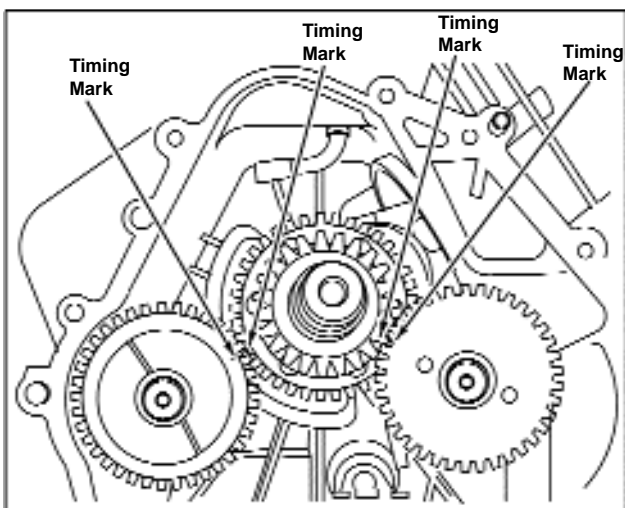

Figure 148 - Installing Counterweight Shaft
1. Turn crankshaft to align timing marks on cam gear and crankshaft gear, Figure 148.
2. Install counterweight shaft into crankcase, and align timing mark on gear with second timing mark on crankshaft gear, Figure 148.